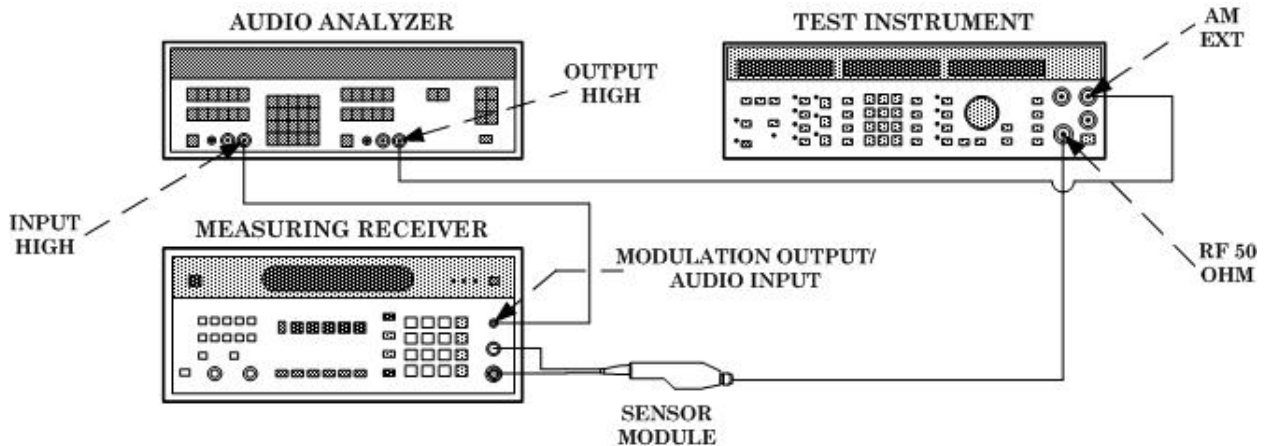

Figure 7. AM modulation.
(1) Connect equipment as shown in figure 7.